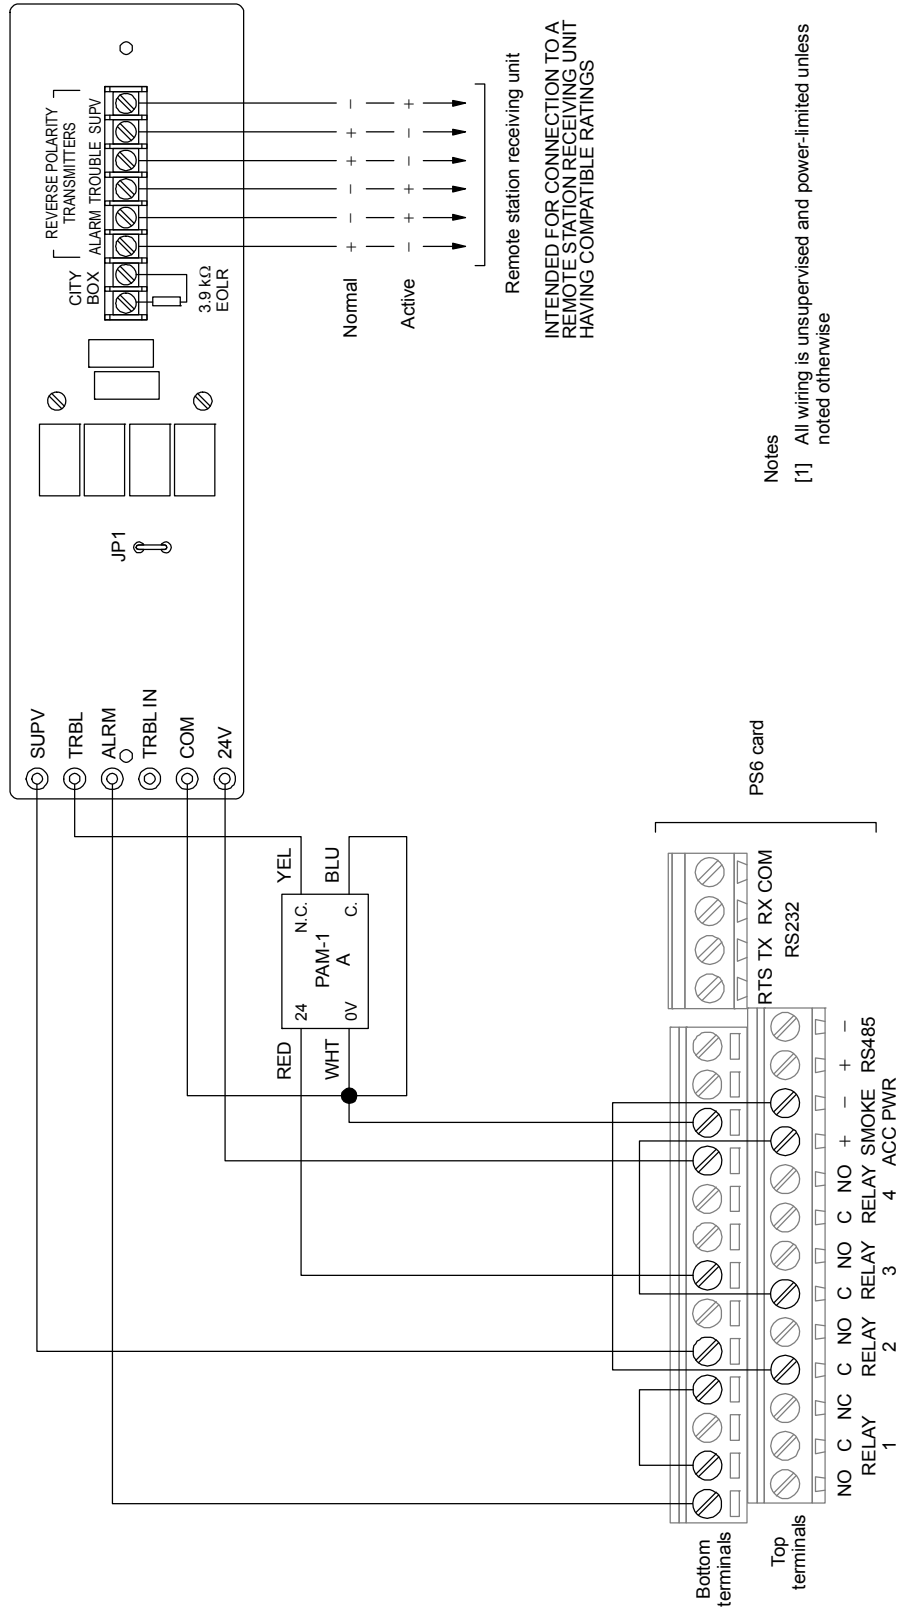

Figure 4-5: RPM wiring diagram (new style)
4. Wire the RPM to the PS6 card as shown in Figure 4-5.
On any trouble event or loss of power, the common trouble relay opens and de-energizes the PAM-1 relay (PAM-1 A in Figure 4-5), which pulls the RPM's trouble input low and reverses the trouble output's signal polarity.